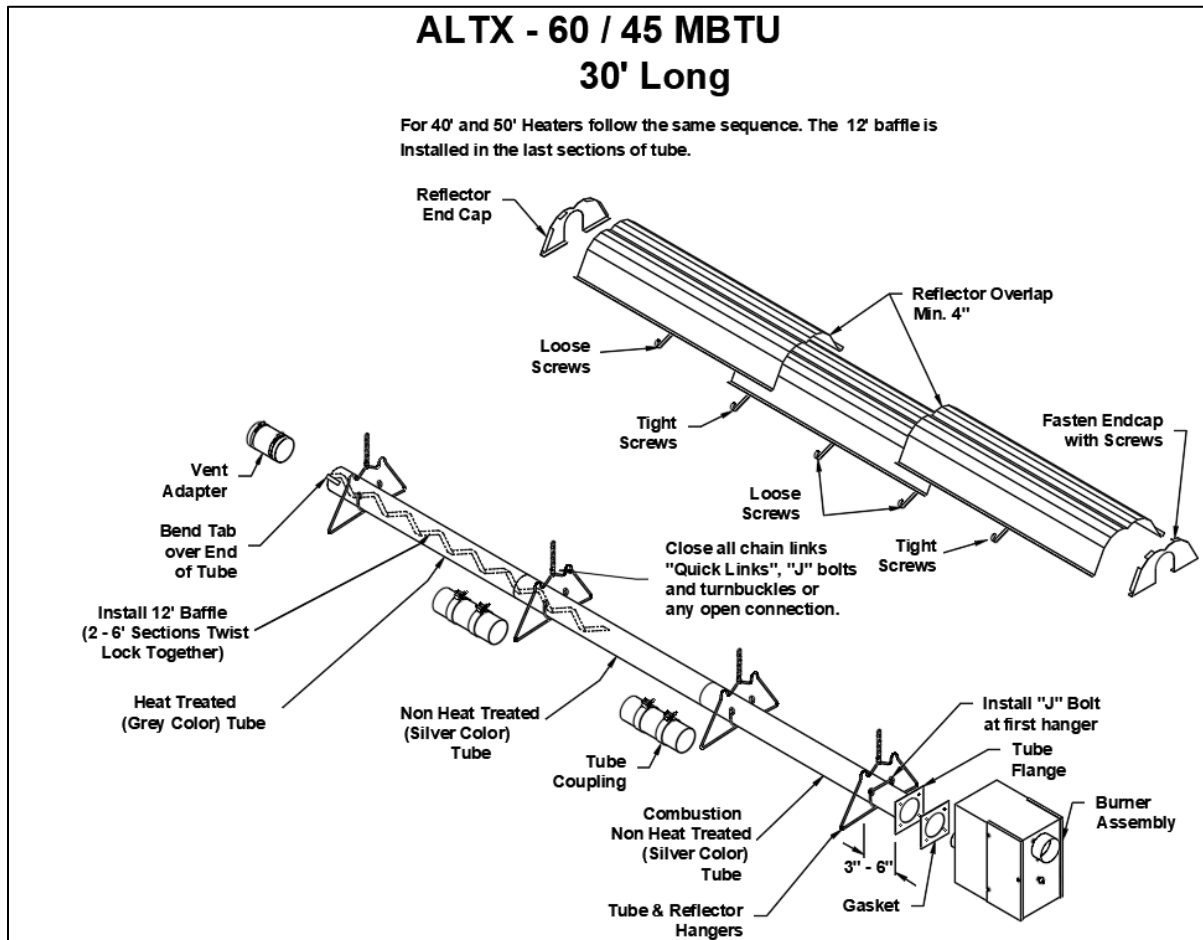
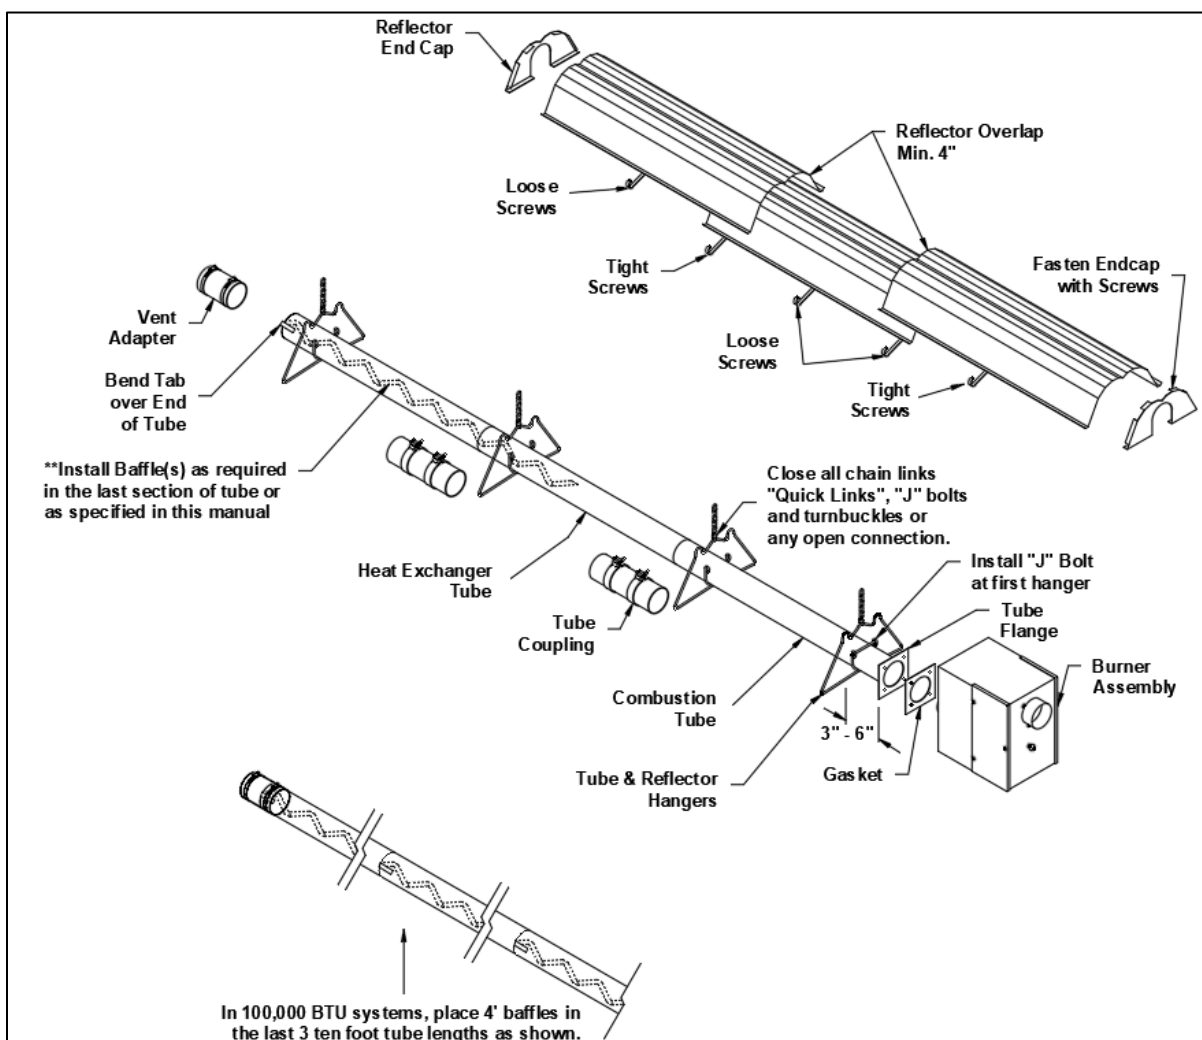
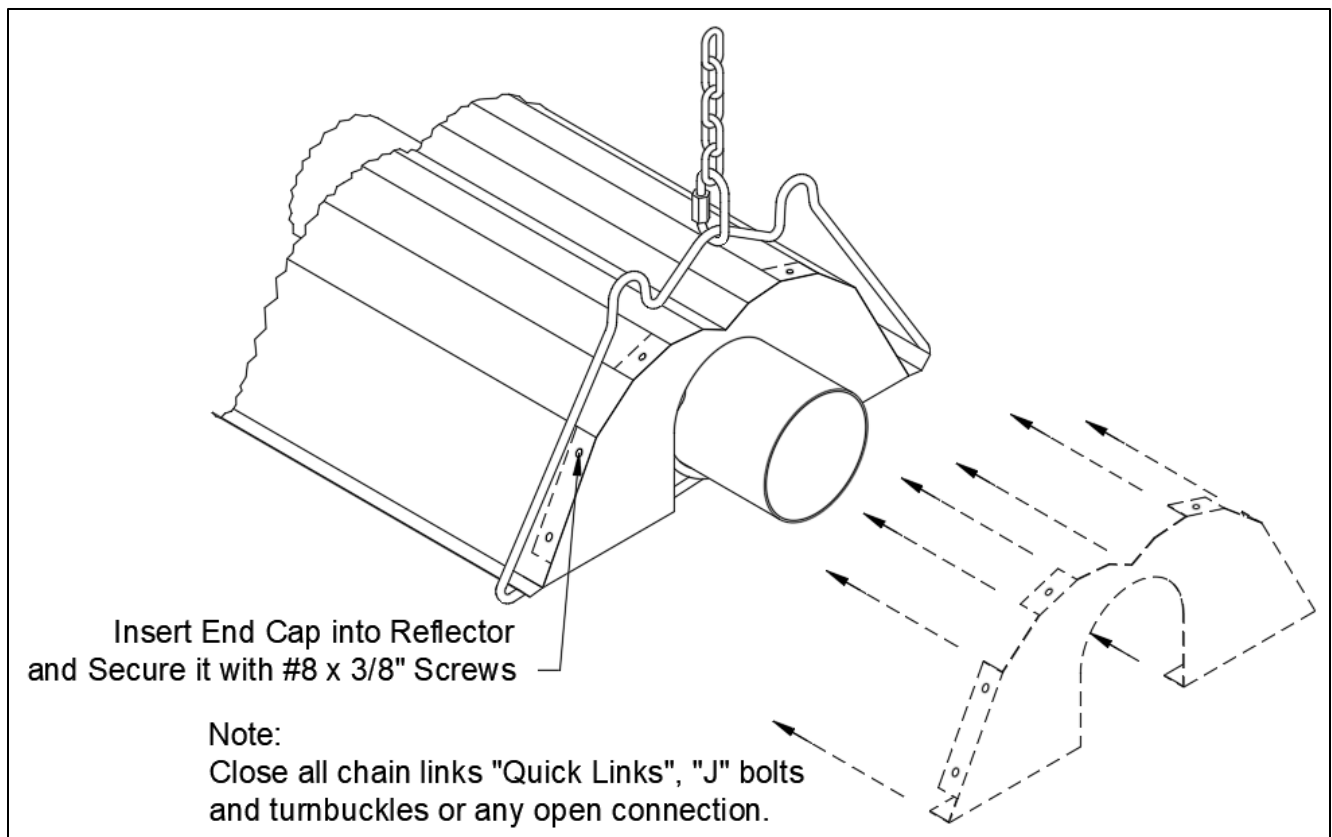

Figure 4: Installation Configurations for 60,000 BTU Model
Figure 7: General Overview of Installation
Figure 20: Reflector End Cap Installation
Generally, there is no unique sequence for installation of the burner or heat exchanger. A review of the job site will usually indicate a logical installation order. However, time and expense can be saved if installation is begun at the most critical dimension, watching for interference from overhead doors, cranes, auto lifts etc. Figure 4 to Figure 7 provides a general overview of the components utilized in the installation, as well as their general relationship.
- Install End Cap as shown in Figure 4 and Figure 20